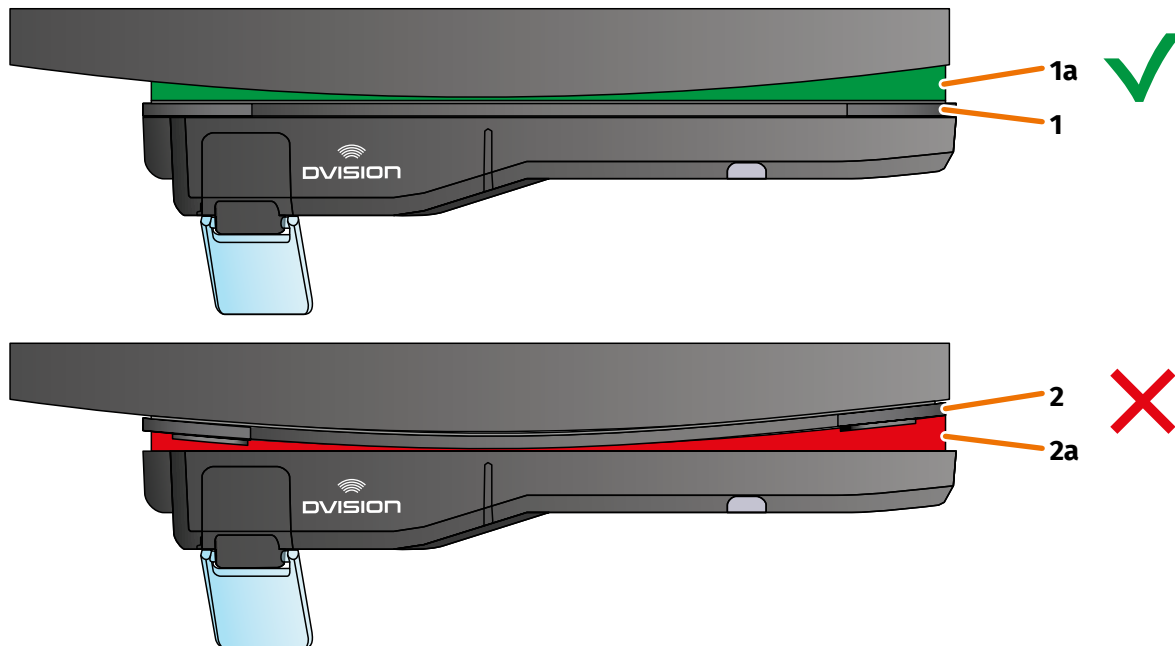

FIGURE 12 // Example: straight and curved mounting surface
- Check whether the helmet adapter sits correctly on the helmet. To do so, use the magnets to attach the DVISION module to the helmet adapter. The DVISION module must lie flush against the helmet adapter (FIGURE 12/1). There must be no visible gap between the DVISION module and the helmet adapter (FIGURE 12/2a). A slight curvature in the mounting surface can be compensated by the adhesive pad (FIGURE 12/1a).